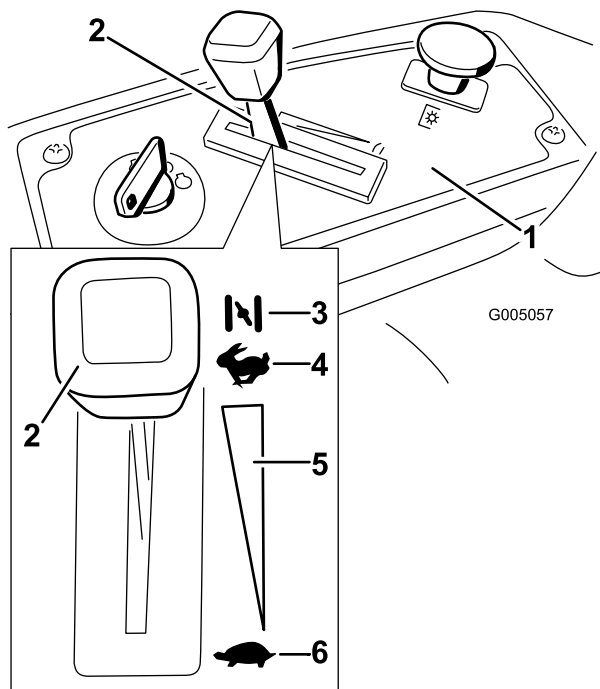

Figure 11
3. Move the throttle lever to Choke before starting a cold engine (Figure 11).
5. After the engine starts, move the throttle lever to Fast (Figure 11). If the engine stalls or hesitates, move the throttle lever back to Choke for a few seconds. Repeat this as required.
3. Turn the ignition key to Off (Figure 11) and remove the key.